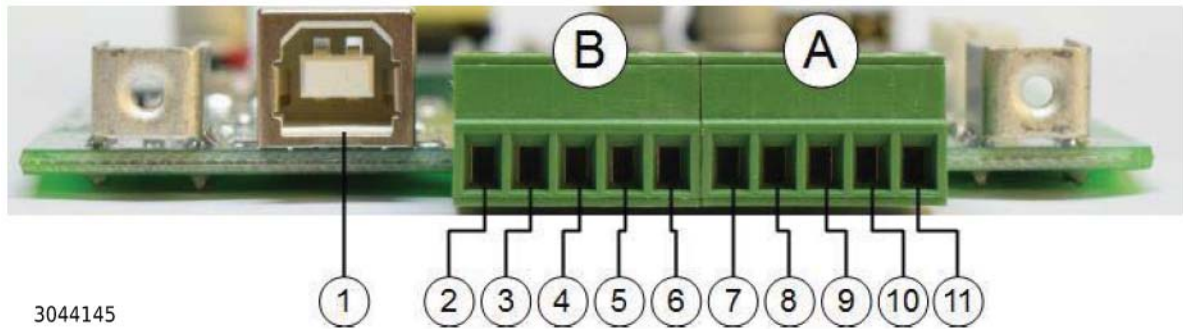

FIGURE 3-34. RS 422/RS 485 AND USB INTERFACE, CONNECTORS AND PINS
The optional RS 422/RS 485 and USB Interface can be configured to allow remote operation via any of the three interfaces optional interfaces included. Refer to Figure 3-34 and Table 3-10 for connector and pin functions.
Use a USB Type A to USB Type B (male) cable to connect the USB socket of the KLN EXT (see Figure 3-34, item 1) to the computer.